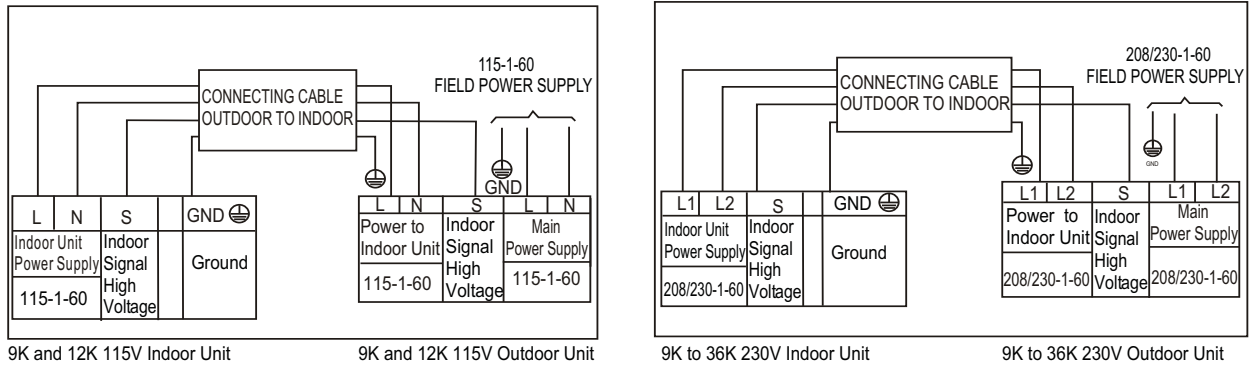
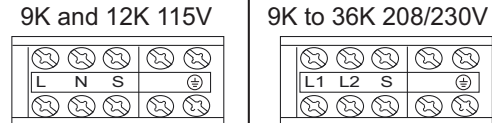

Fig. 10 – Connection Diagrams
Fig. 12 – Control and Power Wiring on Indoor Unit
8. Connect the wiring from the outdoor unit per the connection diagram (see Fig. 10 and Fig. 12).